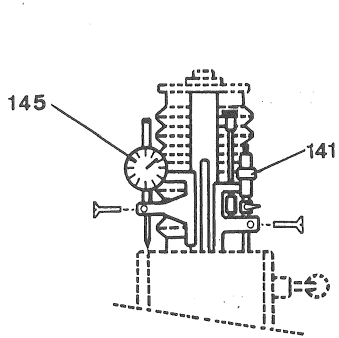
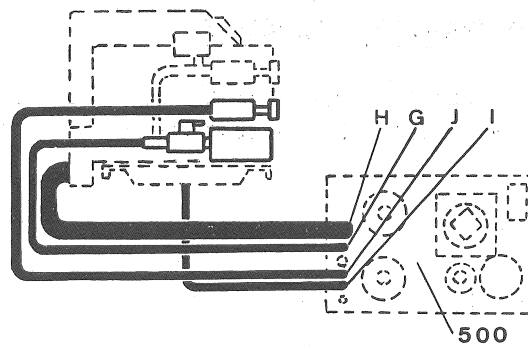

Fig 13
Fig 14
3. Set up the indicator (145) and the micrometer stop (141) (fig. 13).
4. Install the dielectric tank (500) in its final location.
5. Connect the pipes (H-G-I-J) and complete the connections between the dielectric tank (500) and the machine (fig. 14), (refer to paragraph 8.12 for details of connections).